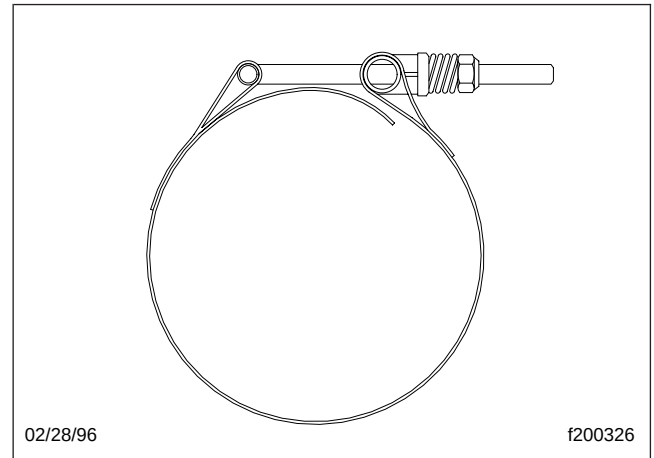
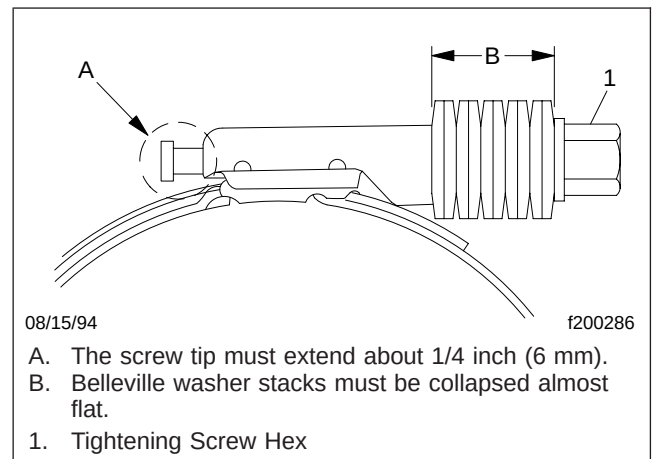

Fig. 4, T-Bolt Type Hose Clamp
Fig. 5, Breeze Constant-Torque Hose Clamp Installation
11. Connect the hoses. Your hose clamps can be either T-bolt clamps (see Fig. 4) or Breeze Constant-Torque clamps (see Fig. 5).